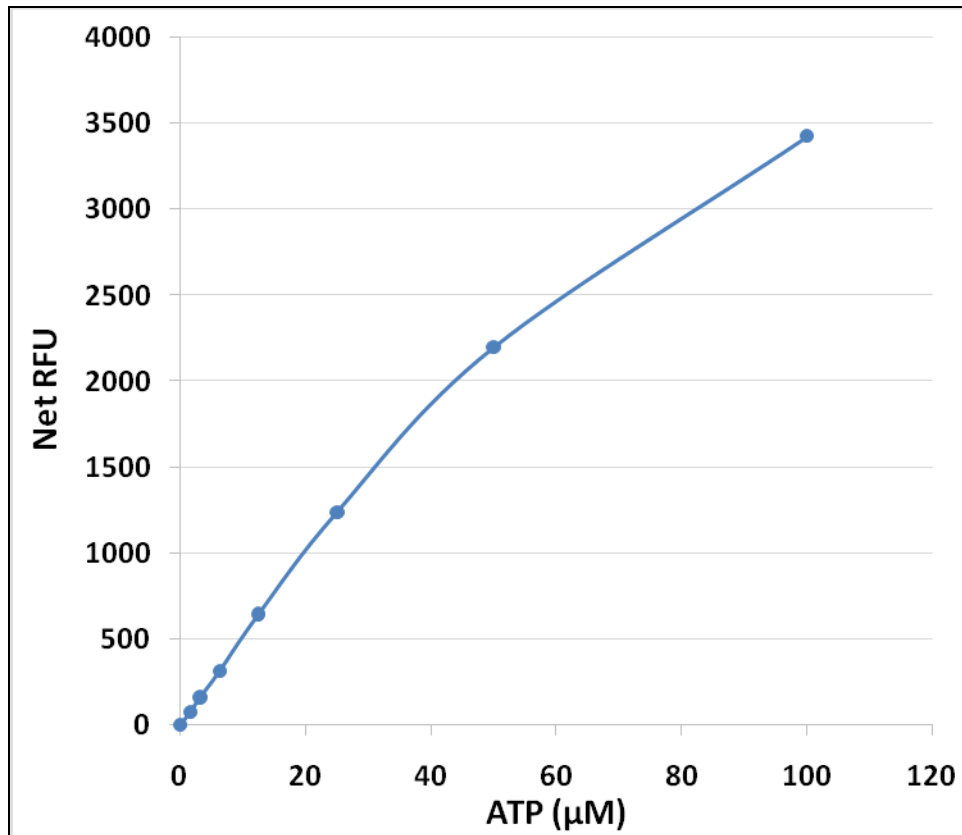

Figure 2: ATP Standard Curve.
3. Graph the standard curve (see Figure 2).